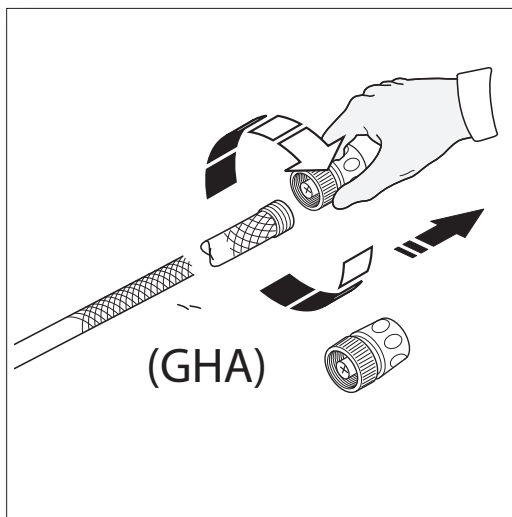

Fig. 15
- Attach the garden hose adapter to the end of the garden hose (**Fig. 15**).